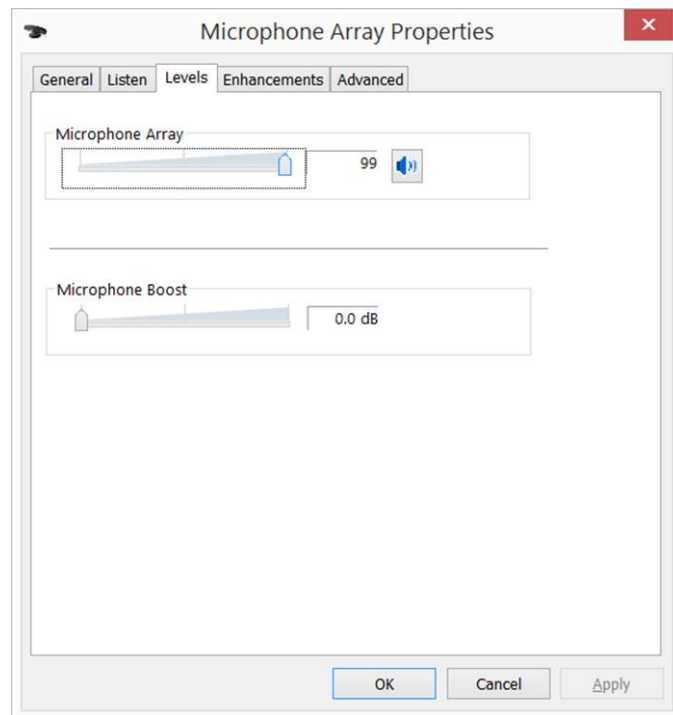

Figure 3-2 Microphone Boost Turned Off
- 14) Turn any boost settings or other special volume settings completely off (for example, set **Microphone Boost** to 0.0dB). See **Figure 3-2** for an example.